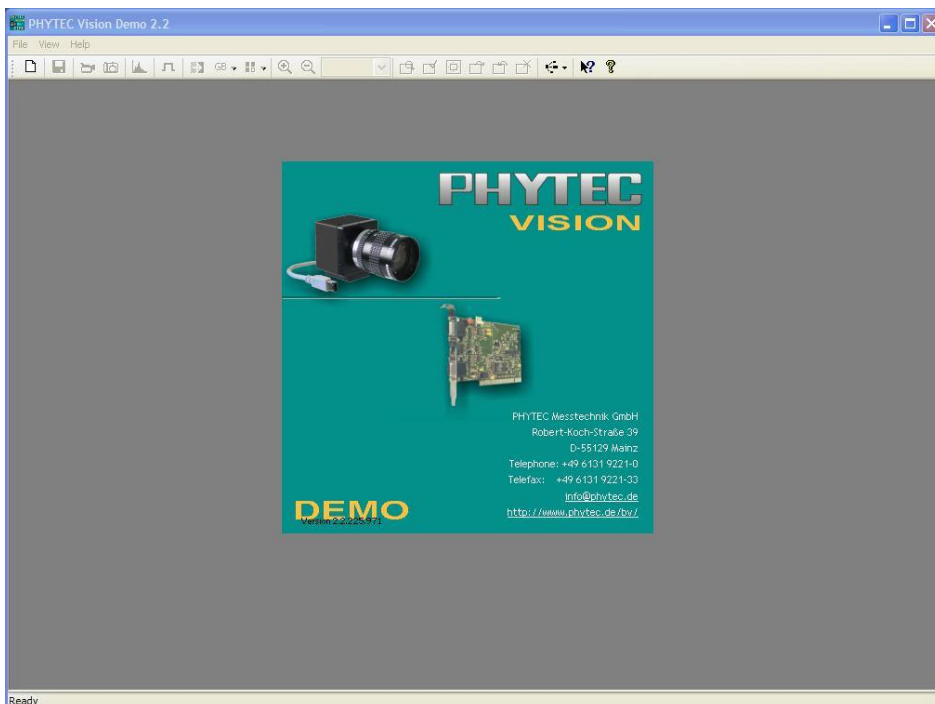

Figure 20: The Program „PHYTEC Vision Demo“
- The program surface will appear (*Figure 20*).